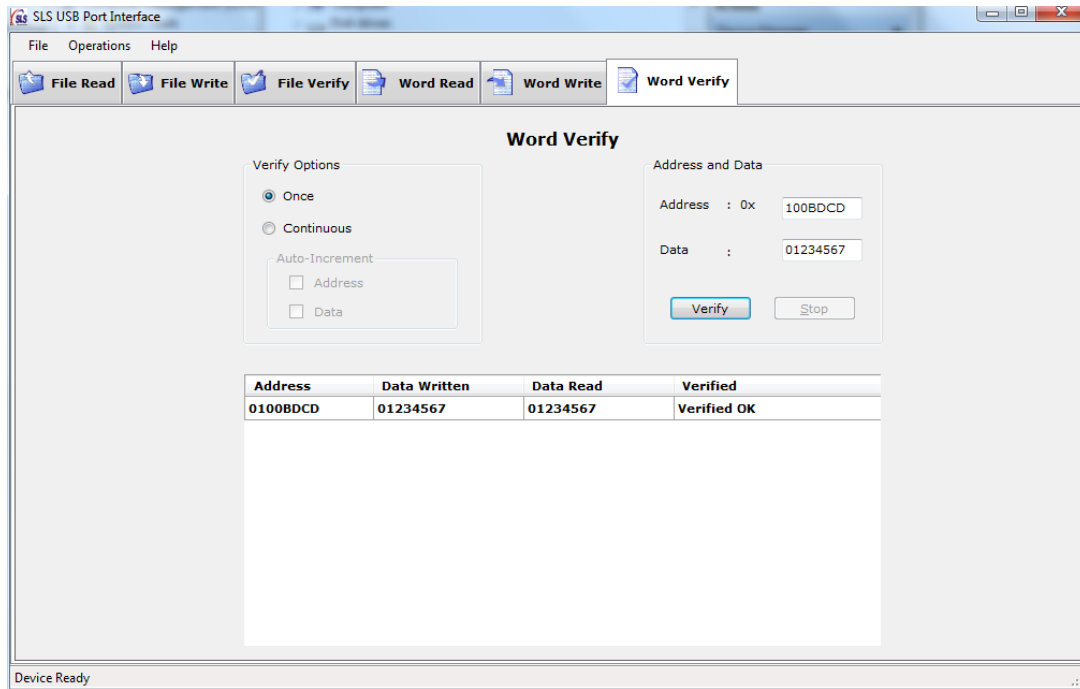

Figure 7-29 Word write and read Verification
- Execute the application file to make the Word or File Write and Read Verify operation as **Figure 7-29** shows.